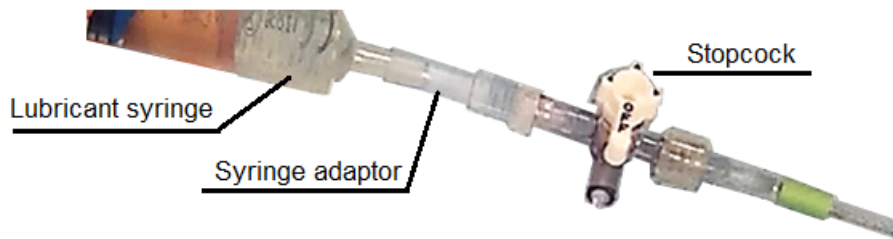

Figure 12. Lubricant syringe with adaptor and stopcock.
- a. Connect the provided three-way stopcock and the syringe adapter to both the green and black-labeled channels (Figure 12).